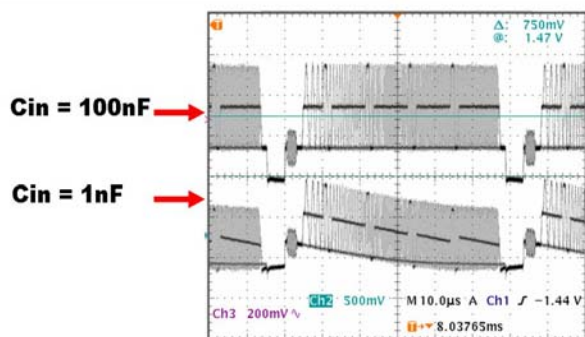

FIGURE 50. DC RESTORE VIDEO WAVEFORMS
0.086μF. Figure 50 shows the result of $C_{IN} = 0.1\mu F$ delivering acceptable droop and $C_{IN} = 0.001\mu F$ producing excessive droop